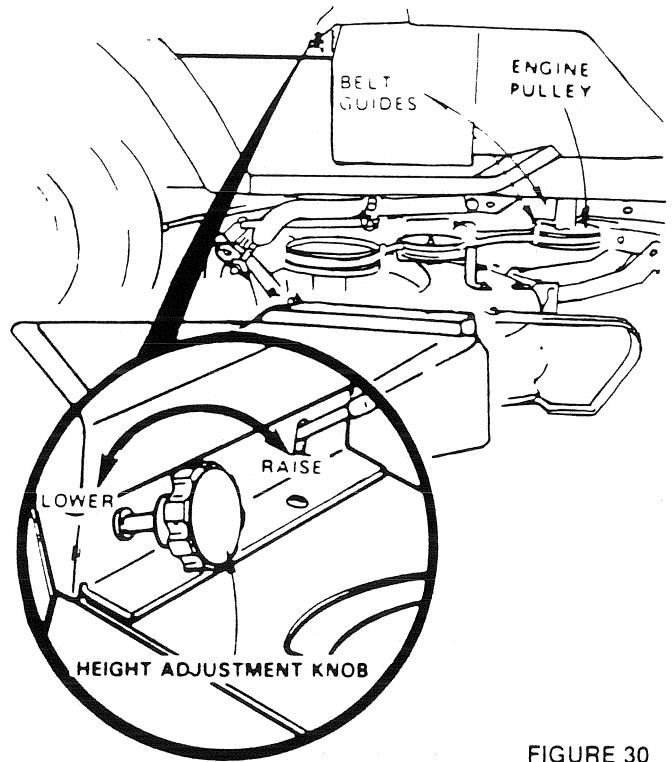
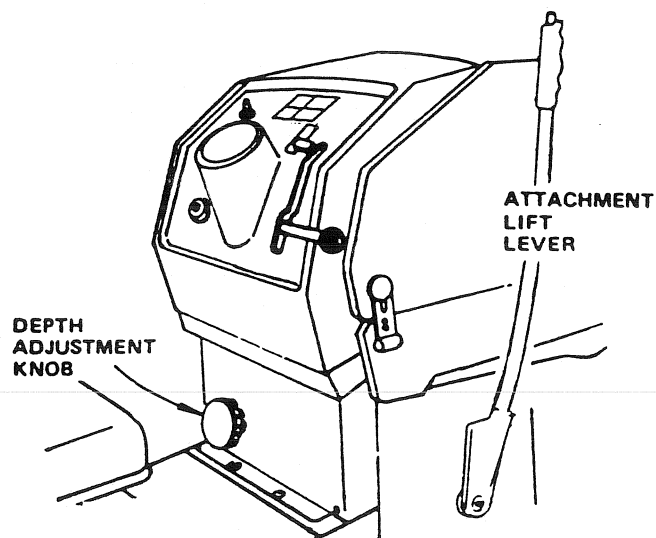

FIGURE 30
FIGURE 28
Your Mower installs without the use of tools. Raise Attachment Lift Lever (Fig. 28) to its highest position. Turn height adjustment knob to lowest position (Fig. 30).
- Move Attachment lift lever (Fig. 28) forward to lower suspension arms. Slide trunnions through lift bracket holes and secure with retainer springs (Fig. 27).
- Roll belt over engine pulley. Make sure belt is inside belt guides (Fig. 30). See belt drive schematic decal on mower housing.
- Use Attachment lift lever (Fig. 28) to raise mower.
- Turn height adjustment knob clockwise (↻) to the middle of its travel, or to desired cut height (Fig. 30).
- Turn height adjustment knob to lowest position. Move Attachment lift lever (Fig. 28) forward to lower mower to its lowest position.
- Roll belt off engine pulley (Fig. 30).